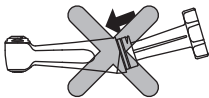

Fig. A-2
- Be sure to insert the FX wrench straight into the handpiece head. Do not insert the FX wrench at an angle as shown in Fig. A-2.